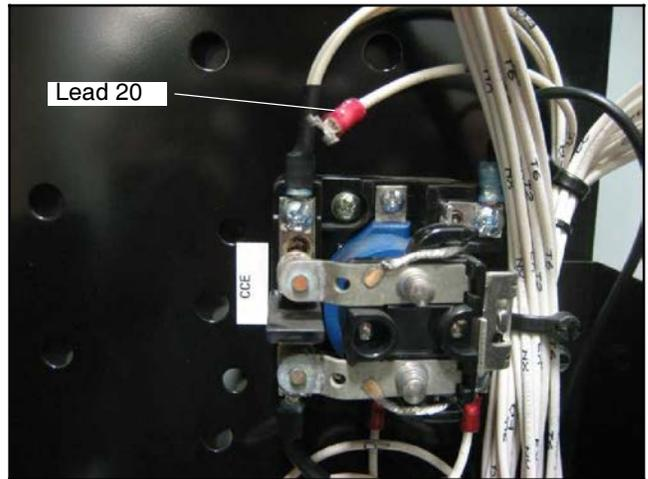

**Figure 43** Disconnect Lead 20 from CCN-1 and CCE-1
28. Disconnect leads labelled 20 from terminals CCN-1 and CCE-1. See Figure 43.